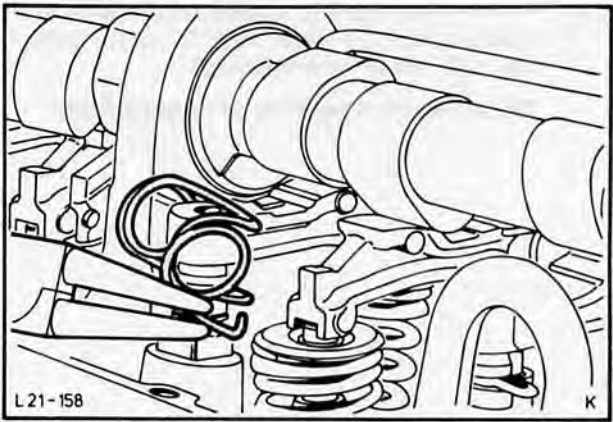

Fig. 163. Secure cam follower by means of retaining springs
19. Secure cam followers by means of retaining springs, Fig. 163, adjust valve clearances using Special Tool 21-004-A (see Operation No. 21 213 'B' engine).